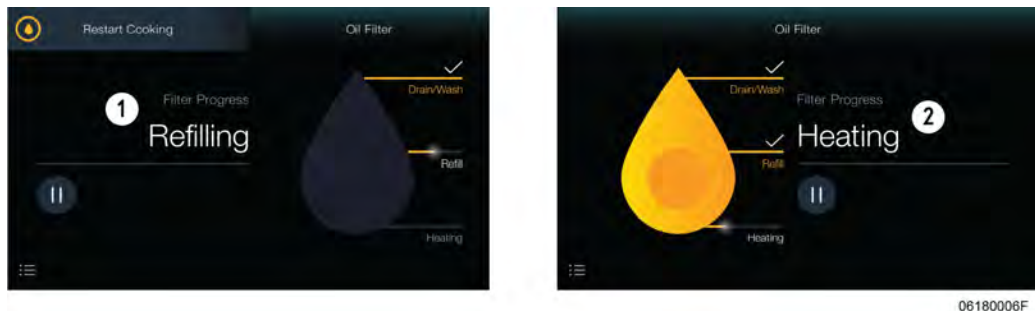

Figure 4-15
- 4) **Refill** - Oil continues to pump and the drain valve closes to allow the oil to refill the vat, see (1) Figure 4-15 , page 28.
- 5) **Heating** - As the vat fills, the heat turns on to raise the oil temperature back to frying temperature, see (2) Figure 4-15 , page 28.